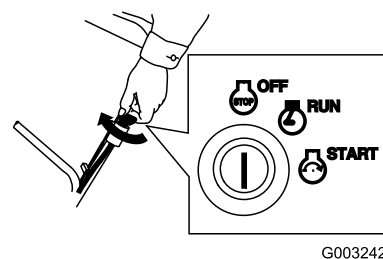

Figure 22
1. Turn the key to the Off position (Figure 22).